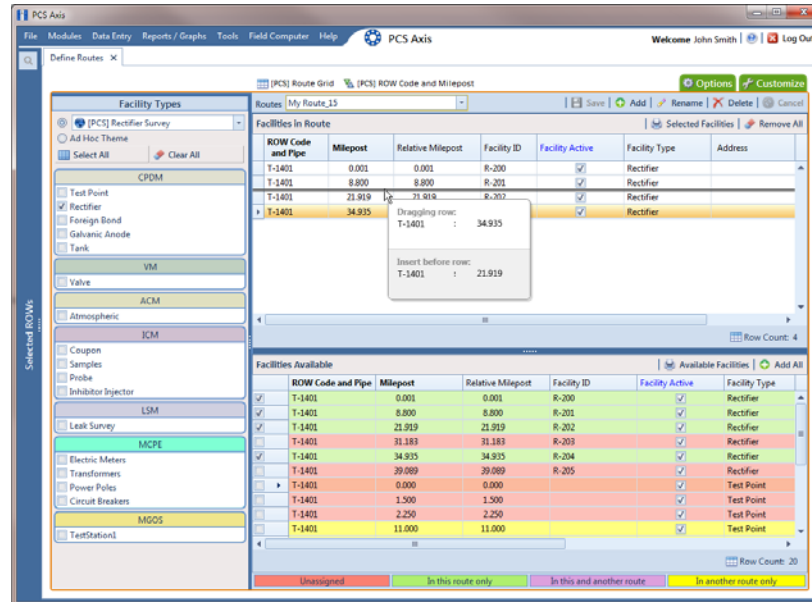

Figure 8-11. Arranging the Order of Facilities
- 2** Arrange the order of facilities listed in the *Facilities in Route* grid as needed using any of the following methods (Figure 8-11):
NOTE: A message displays when moving selected grid rows to confirm the new location in the grid (Figure 8-11, page 359).